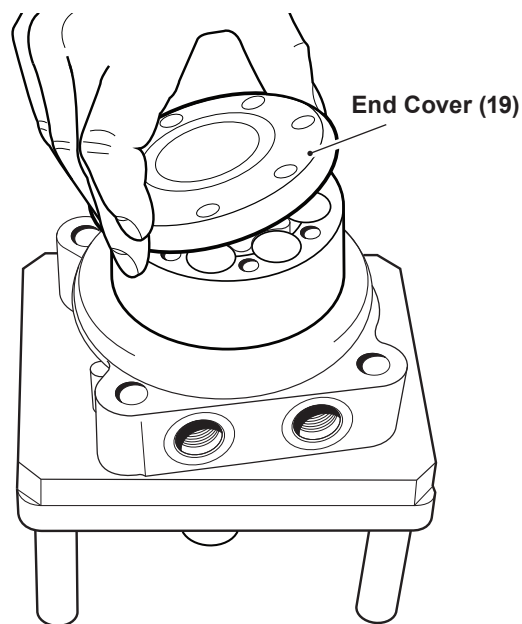

Figure 16, End Cover
1. Install the end cover (19). *See figure 16.* Align markings.